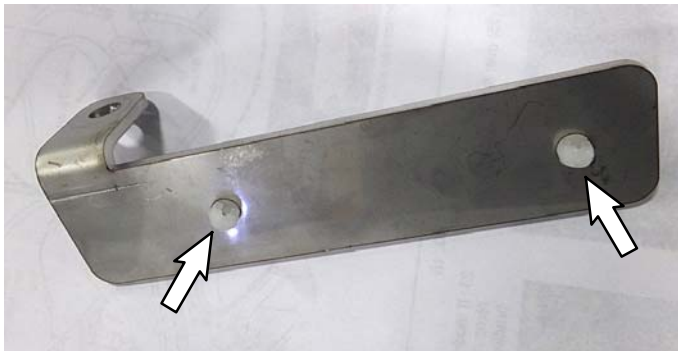

FIG. 22
25. Install two cable-tie clips (20) to shunt bracket (19). (FIG. 22)